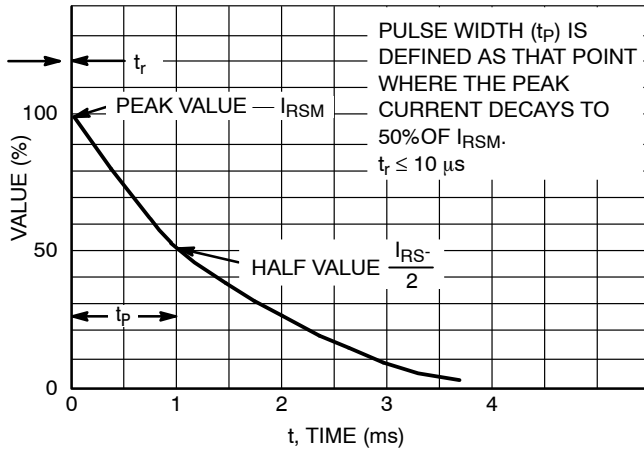

Figure 1. $10 \times 1000 \mu s$ Pulse Waveform
- Peak Power: 24 W @ 1.0 ms (Unidirectional), per Figure 1
2. Non-repetitive pulse per Figure 1.